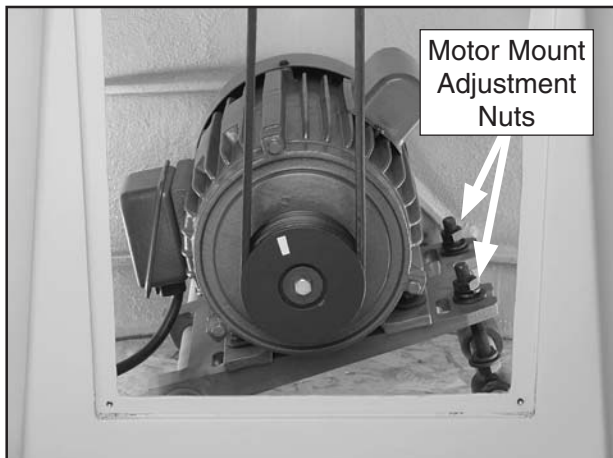

Figure 39. Motor mount adjustment nuts.
2. Using a 19mm wrench, loosen the motor mount adjustment nuts above the motor mount plate (**Figure 39**).